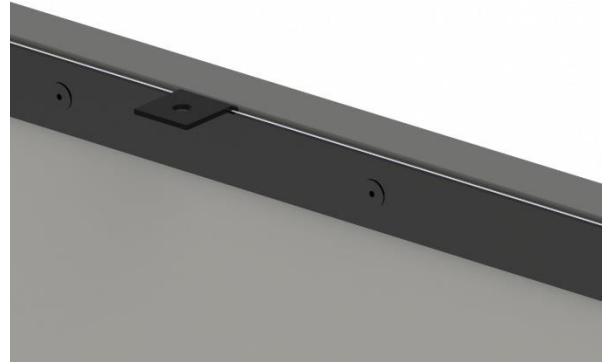

Figure 12: Installing Frame/Screen Assembly – Rear View, Close-up
4. Install the frame/screen assembly into the aperture using the attached mounting brackets and appropriate fasteners (see Figure 12).